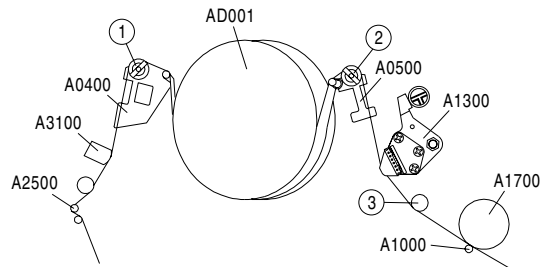
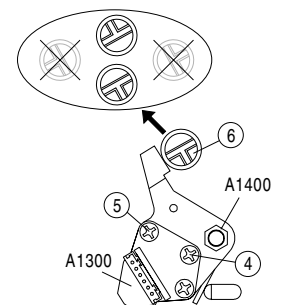

Fig. 22
Fig. 24
- Re-adjust the reverse rollers (1) / (2) (Fig. 22) if necessary so that the tape does not touch the top or bottom edge of the rollers.
- Adjust the tilt of the A/C head with screw (4) (Fig. 24) so that the tape passes the tape guide pin (3) (Fig. 22 / 23) in the middle between the top and bottom edge.
- Set the height adjustment screw (Pos. A1400, Fig. 24) for maximum output voltage.
- Set the azimuth adjustment screw ⑤ (Fig. 24) for maximum output voltage.
- Press button ① and confirm with the button.
- With the buttons select "SERVICE CODE" and enter the code number ⑧ ⑤ ⑧ ⑧.
With the X-value adjustment screw ⑥ (Fig. 24) in mechanical mid-position adjust the X-value in mechanical mid-position in the tracking functions "ATK off – max" and "ATK off – min" to obtain FM packages of the same amplitude.
- Adjust the reverse rollers ① / ② (Fig. 22) so that the FM packages at the tape lead-in and lead-out side do not exceed the limit value $b/a \leq 0.75$ (Fig. 25).
- Set the reverse rollers ① / ② (Fig. 22) so that the amplitude of the FM packages is as flat as possible.
turn the left reverse roller ① (Fig. 22) clockwise
turn the right reverse roller ② (Fig. 22) clockwise
turn the left reverse roller ① (Fig. 22) counterclockwise
turn the right reverse roller ② (Fig. 22) counterclockwise
- Press the "picture search reverse" button followed by the "play" button after 15 seconds. After another 3 seconds the FM packages must recover their maximum amplitude and flat envelope. If necessary, re-adjust the reverse rollers ① / ② (Fig. 22).